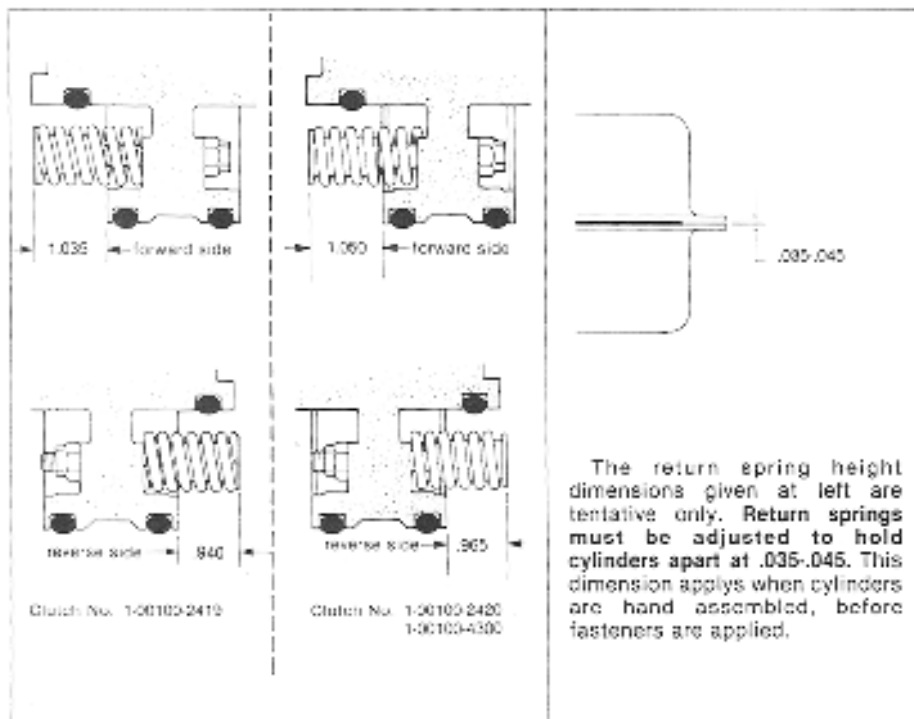

Fig. 24. Clutch Return Spring Height Adjustment.
4. Replacement of return springs and retainers (if necessary): Insert return spring retainers into return springs and secure in gear carrier using cap screws. Tighten cap screws tentatively until top of spring retainer protrudes the specified distance from the face of the bevel gear carrier hub as shown in fig 24.
5. Without installing o-rings, place cylinders on bevel gear carrier by hand. There must be a uniform gap between cylinders of .015 to .025". See figure 24. Check with a feeler gauge. If necessary readjust return spring height and install locknuts.